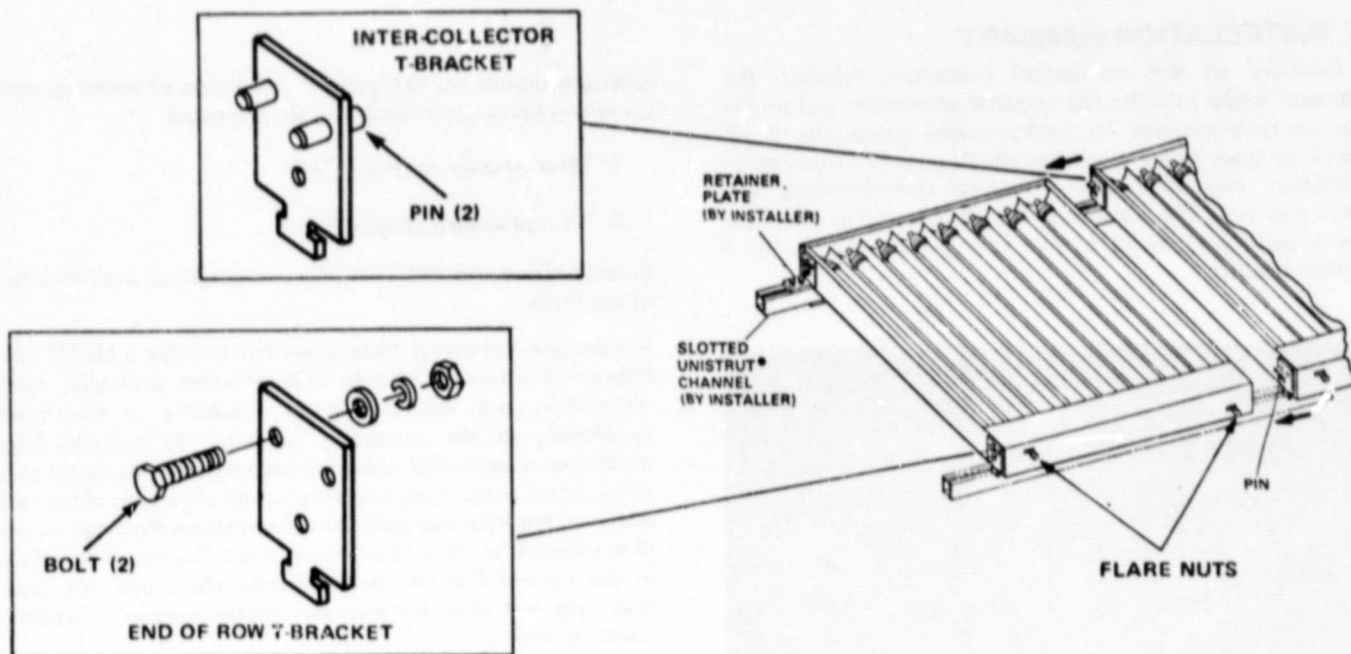
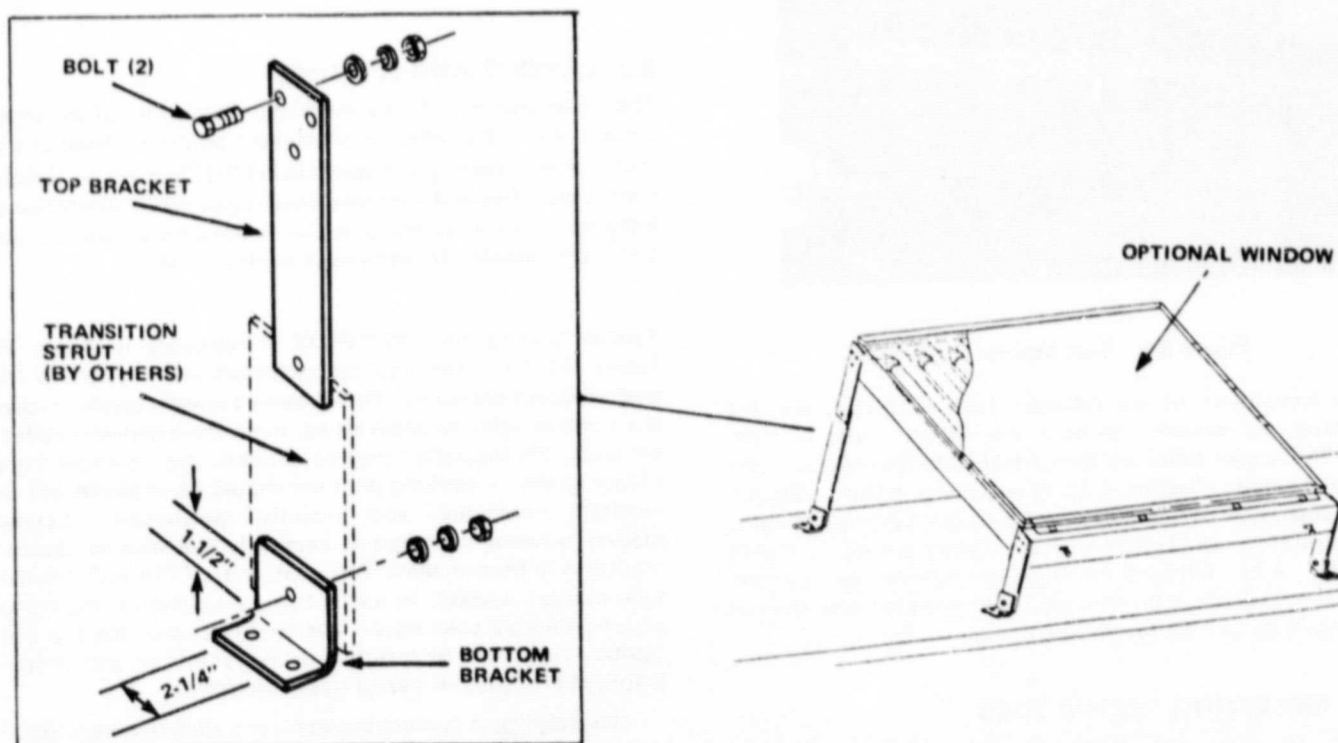

Figure 3-3. Direct Mounting Kits
Figure 3-4. Strut Mounting Kit
Mounting Bracket Kits (Figures 3-3, 3-4 and 3-5) for either sloping surface, flat-roof or space frame applications are available. Direct mounting bracket kits (Figure 3-3) include T-brackets which lock the collector to commercially-available UNISTRUT® channels which are attached to the roof or other substructure. "Internal" brackets utilize pins while "external" brackets are bolted. The strut mounting option (Figure 3-4) offers a standard top and bottom bracket design for use with contractor-supplied transition struts. Space frame bracket kits (Figure 3-5) provide a standard L bracket with a 3/8 inch threaded U-clamp for 3" diameter tubes. All three kit options include the required nuts, bolts and washers.
1. Direct mounting (Figure 3-3).
2. Strut mounting (Figure 3-4).
A collector mounting technique that utilizes a UNISTRUT channel attachment (Figure 3-3) provides a simple, quick installation and will also allow flexibility in the lateral positioning of the mounting brackets. By avoiding hard-mounting of individual collector support brackets, installation time can be reduced significantly in the alignment and attachment of brackets and collectors. Installation time can be further reduced by using the internal mounting brackets offered in the General Electric mounting kits which use pins rather than nuts and bolts for slide-on interconnection of adjacent collector panels.
In a strut-mounted installation (Figure 3-4), hard mounting of individual collector support brackets is required to provide rigid support. Strut mounting will be somewhat more time consuming than a direct mounting in terms of both alignment and attachment. Cross-bracing may be required for lateral support.
1. Install all transition struts (Figure 3-4) and top brackets to the bottom brackets.